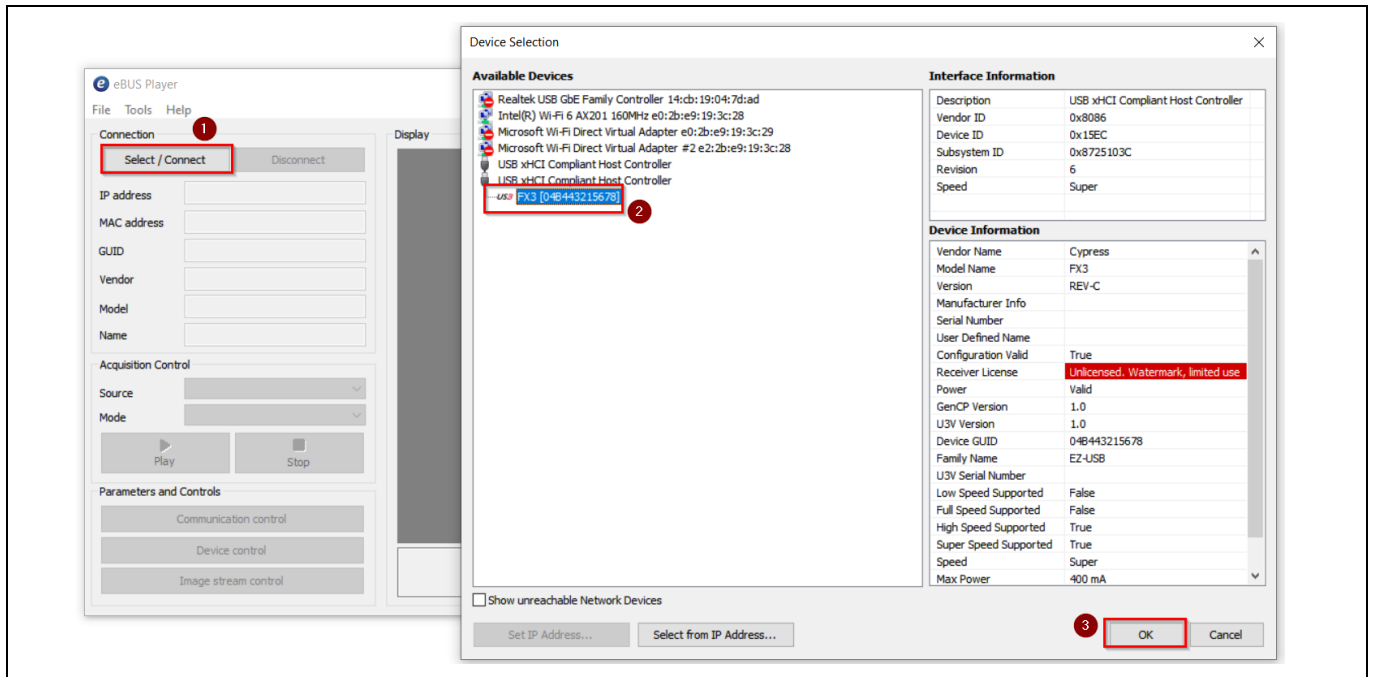

Figure 14 Selecting USB3 Vision device in eBUS Player application
6. Click **Select/Connect** from the eBUS player. Verify that FX3 is detected as shown in Figure 14.